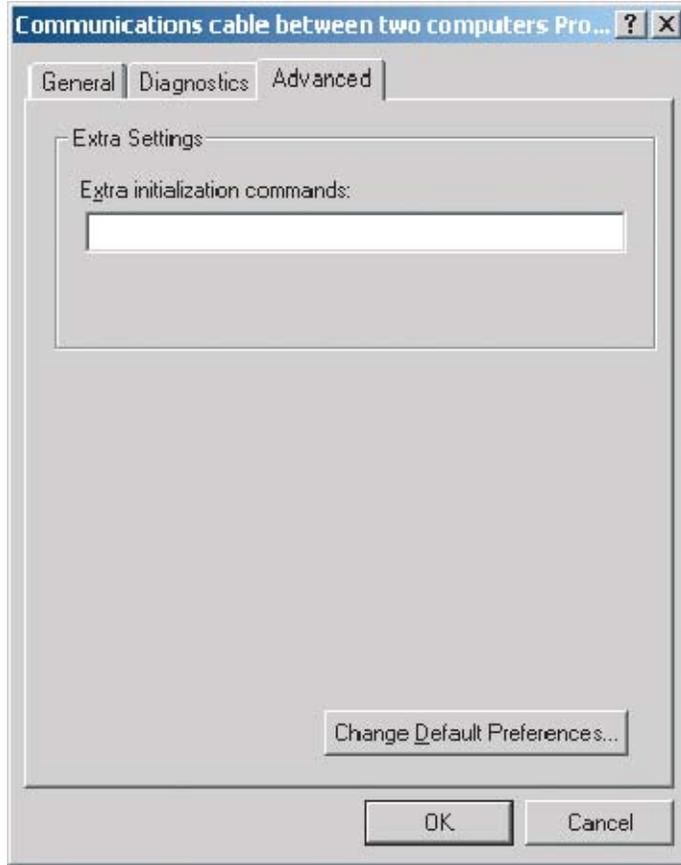

Figure 140: Properties window - Advanced tab
5. Click the Advanced tab. See Figure 140: Properties window - Advanced tab on page 208.